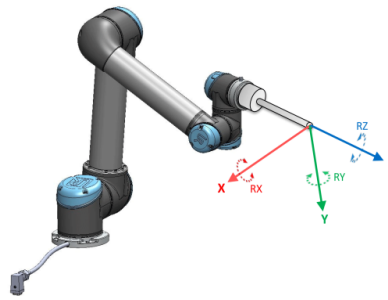

Figure 13.2: Tool (TCP) feature
*Tool:* feature located with origin in the centre of the current TCP (see figure 13.2)